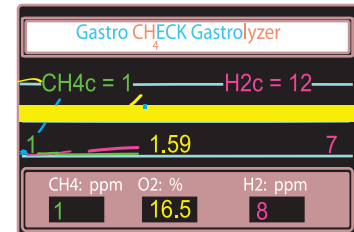

fig.15
7. Both the peak and the compensated values will be displayed on the monitor on completion of analysis. The real time data will be displayed as the gas sample is being analyzed. (fig. 15)